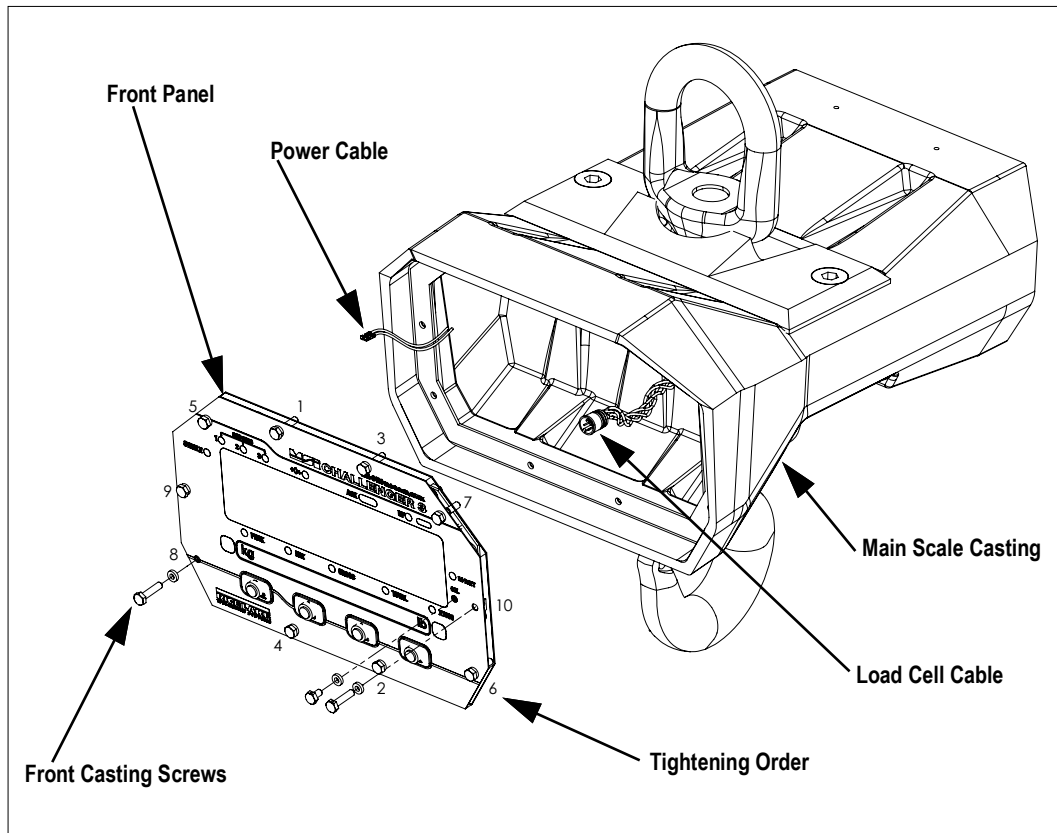

Figure 2. Front Panel Removal
2. Remove the front panel by loosening the screws securing it. See Figure 2.
2. Torque screws to 1.75 in-lbs in the order shown in Figure 2 on page 2.